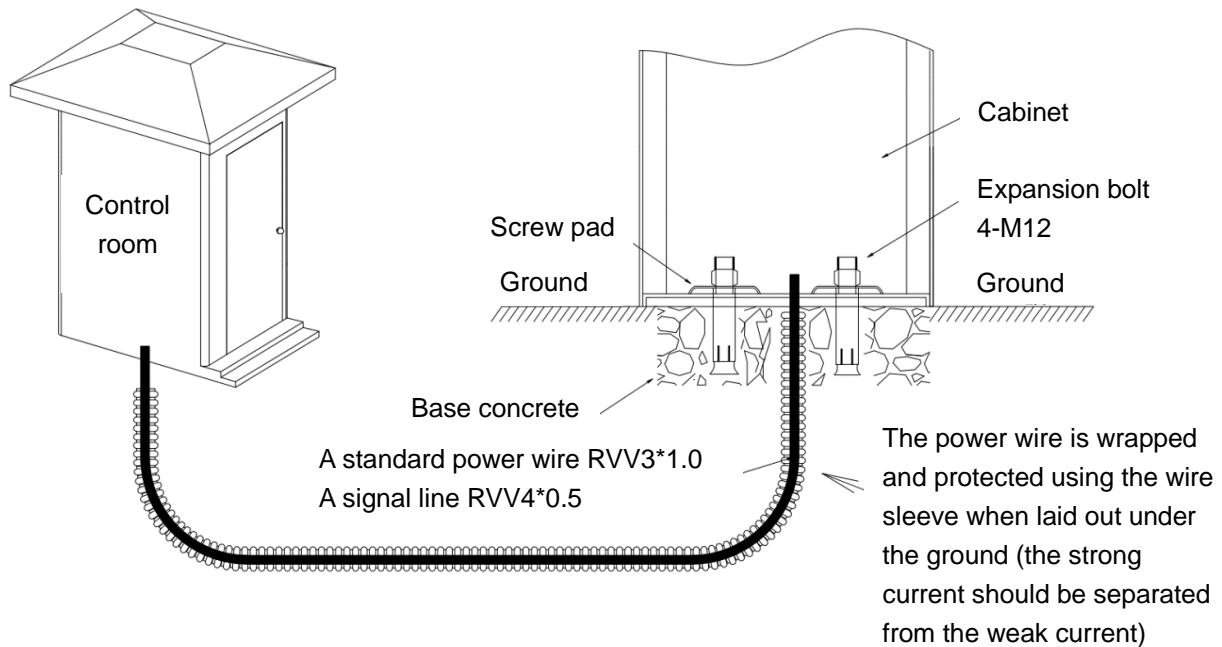

Figure 2-1 Cable embedding
- 3) Use a tool to open a cable tray on the ground, see figure 2-1.